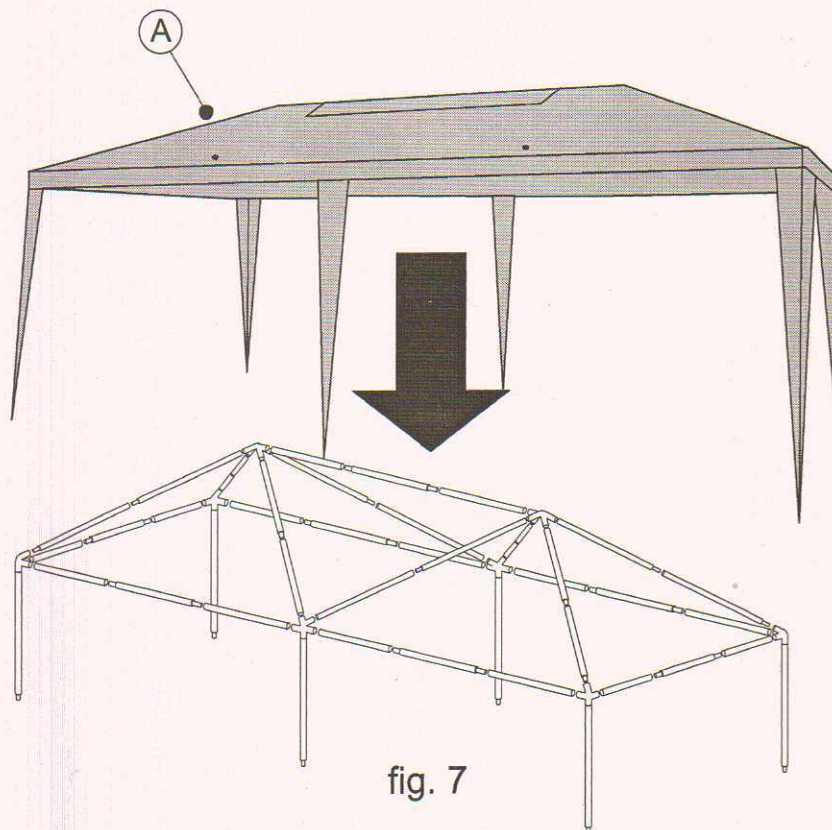

fig. 7
Carefully place the Gazebo Cover (A) over the assembled roof. Then pull the Gazebo tightly over the assembled roof frame. See fig 7.